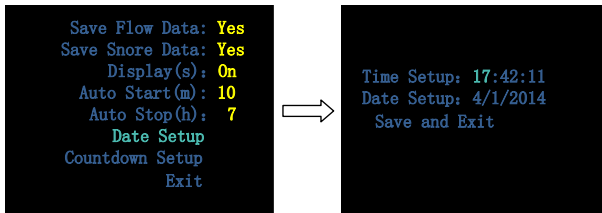

Figure 1-14 "Date Setup" interface
- **Date Setup**, allowing users to set time and date according to their needs. Select "Save and Exit" to exit the "Date Setup" interface, as shown in Figure 1-14.